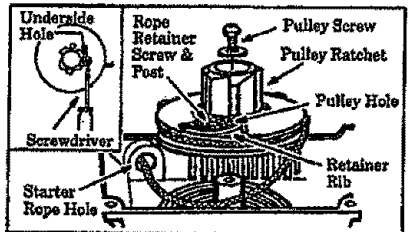

Figure 39
5. Remove the pulley screw in the center of the pulley. Figure 39.
7. Remove the Rope Retainer Screw and remove the old rope. Figure 39.
11. Feed the rope through the round starter rope hole in the fan housing. Figure 39.
12. Guide the rope inside the pulley, then up through the pulley hole (on the Pulley Ratchet side). Figure 39. It might be necessary to insert a small screwdriver through the underside hole to push the rope through the Pulley Hole. Figure 39 (inset).
13. Wrap the rope counterclockwise around the pulley ratchet and tuck loose end back under the rope leaving a 1 inch tail between the retainer rib and screw post. Figure 39. Pull rope tightly.